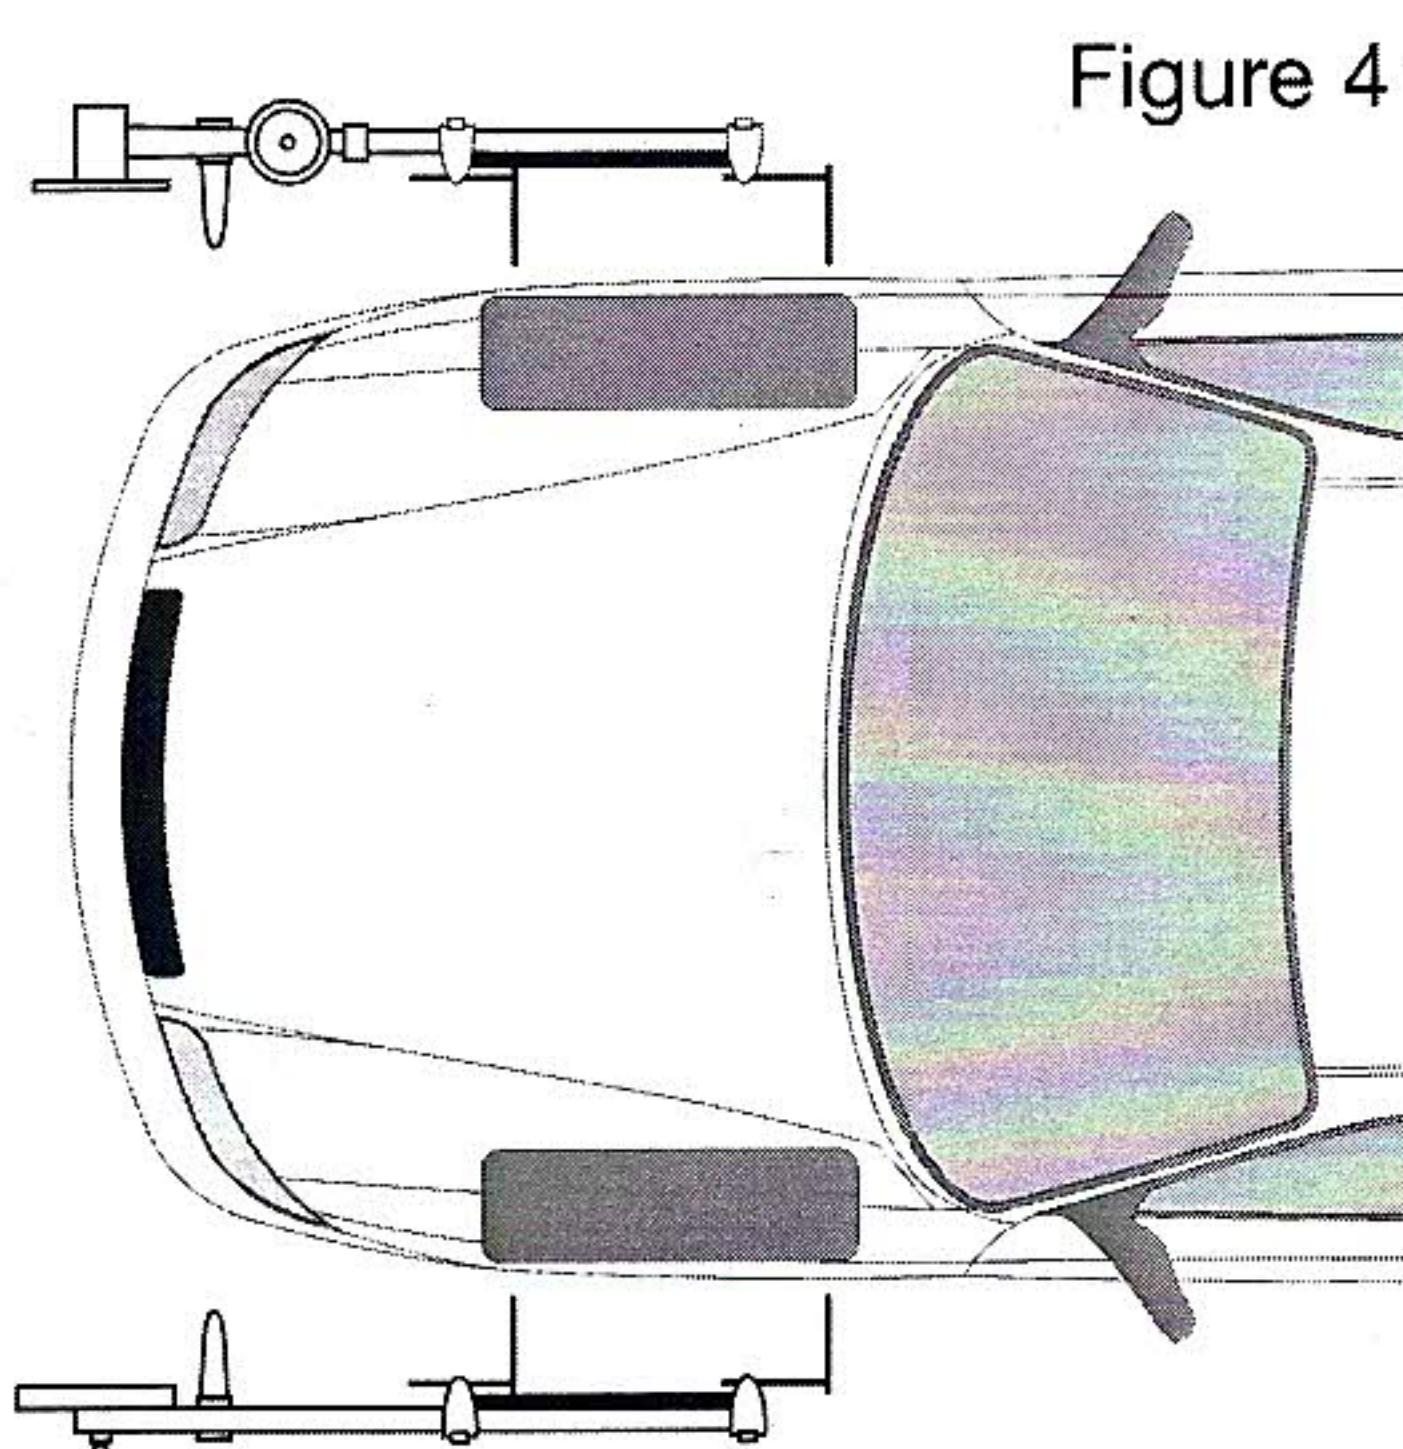

Figure 4
- Set up both units as in Figure 4. Adjust pointer until the laser beam is central on the target plate (Figure 2). The graduated scale plate will now show the amount of toe-in or toe-out in degrees and minutes. Each division on the scale represents 10 minutes.
- The calculator (G) facilitates conversion of the angle obtained to a linear measurement in millimetres or fractions of an inch (linear toe-in or toe-out). Set the large arrow on the top dial to the specified width on the bottom dial.